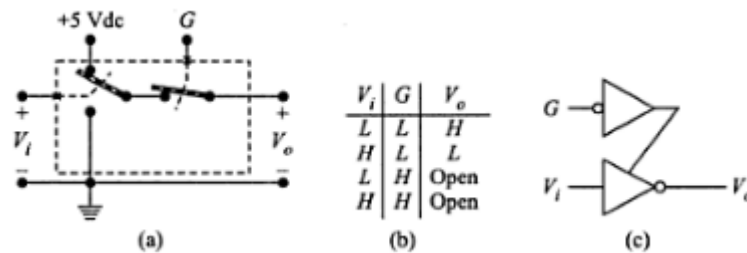

Figure 1.11: Inverting tri-state buffer (a)Model (b)Truth table (c)Symbol
i.e. when $G=\text{LOW}$, the circuit is activated and output V_o is the inverse of the input V_i (Fig: 1.11).